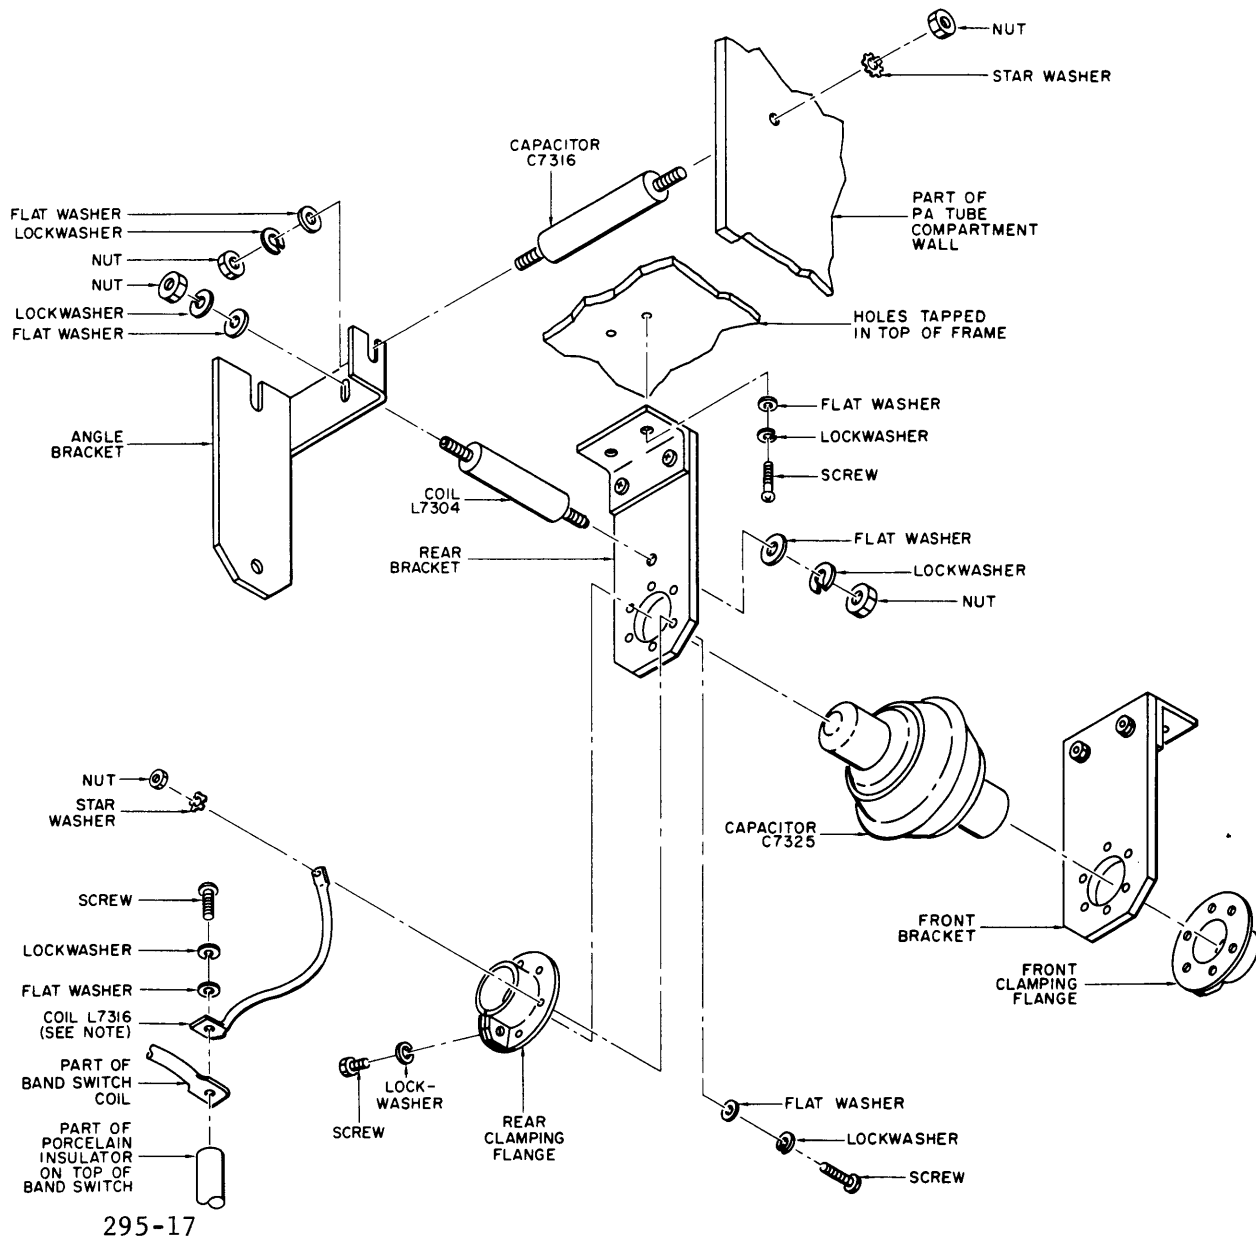

Figure 4-13. Third Frame Pa Circuit Components, Installation Diagram.
- a. Remove hardware holding rear bracket, figure 4-13, to top of frame and end of coil L7304 attached to angle bracket.
- c. Position capacitor C7325 (contained in crate 2). And remount rear flange-clamp bracket to top of frame (figure 4-13).